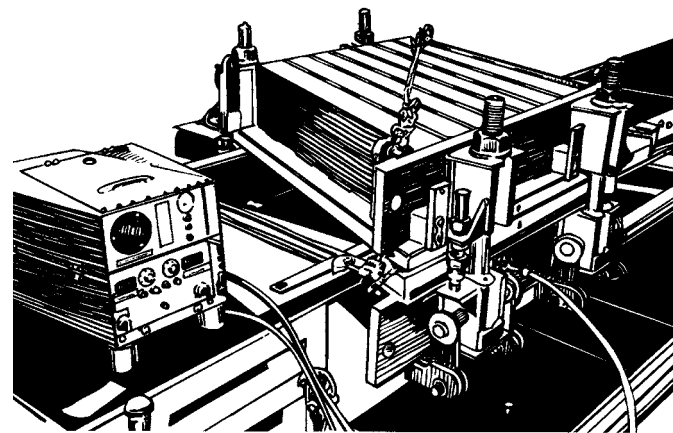

Fig. 11-16
37. To ensure solid edges, guides of the proper gauge must be used. The guides must contact the belt edges for the full length of the splice and extend 6 in. (150 mm) on both ends of the press (Fig. 11-16).